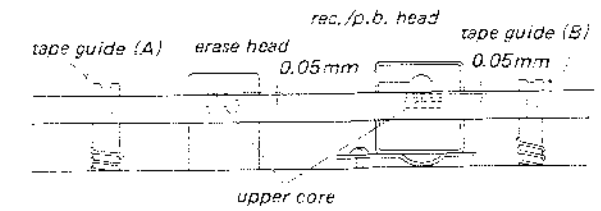

Fig. 5-2-3 Adjusted tape path
- Turn the tape guide (A) so that the upper edge of the tape and the upper edge of the upper core or erase head are in the same height.
- Turn the tape guide (B) so that the upper edge of the tape and the upper edge of the core of rec./p.b. head are in the same height.
- Turn the tape guide (A) clockwise by 30 degrees. Turn the tape guide (B) counterclockwise by 30 degrees.
- Adjusted tape path is as shown in Fig. 5-2-3.